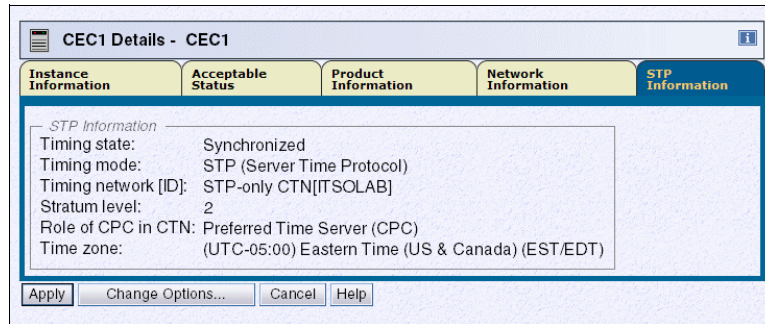

Figure 6-75 CPC Details for CEC1
5. On the CPC Details window (Figure 6-75) the STP Information shows that CEC1 is the PTS but is no longer the CTS.